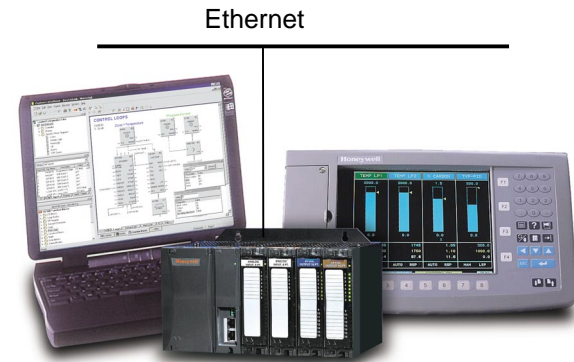

Figure 2: HC900 Hybrid Controller, Model 1042 OI and Hybrid Control Designer Software
Overview - The HC900 as shown in Figure 2 consists of a panel-mounted controller, available in 3 rack sizes along with remote I/O, connected to a dedicated Operator Interface (OI).